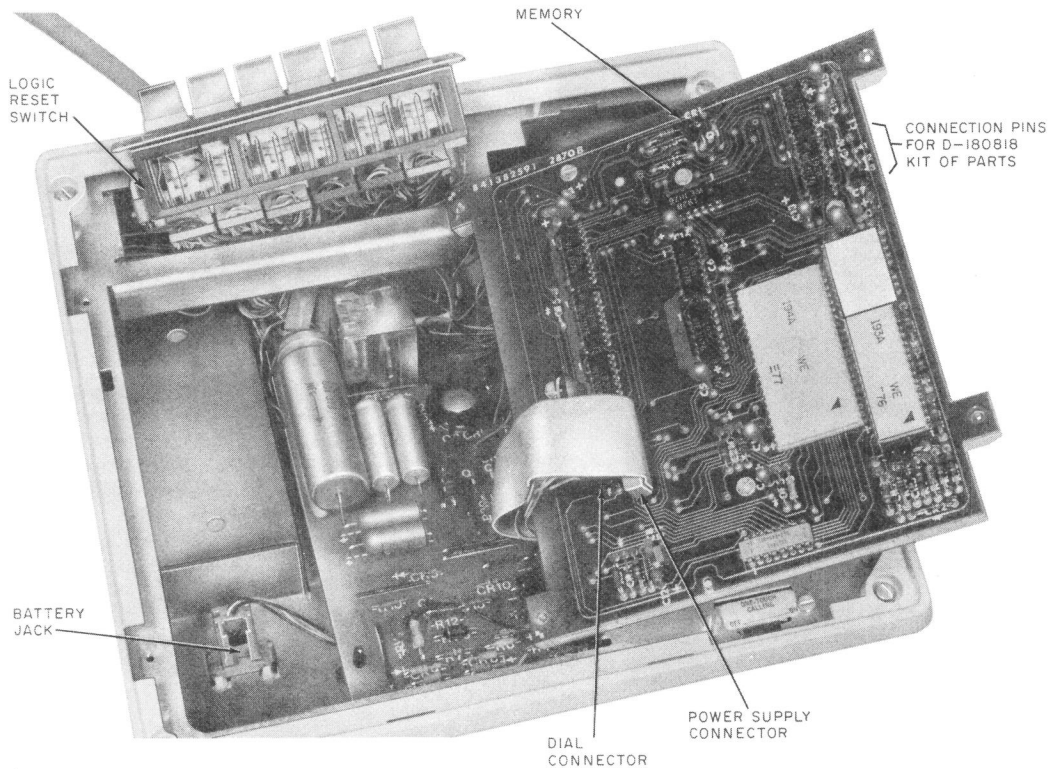

Fig. 5—2872A2M Telephone Set, Internal View, Overall
- (4) Disengage the two captive dial mounting screws and move dial aside.
- (5) Rotate left edge of the memory upward as shown by Fig. 5.
- (a) Battery jack (Fig. 5)